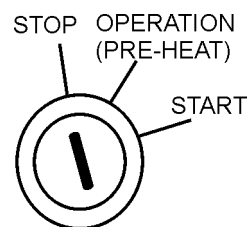

Figure 54. Ignition Switch (Stop Position)
3. Place the ignition switch (Figure 54) in the “**STOP**” position, remove the key and store in a safe place.